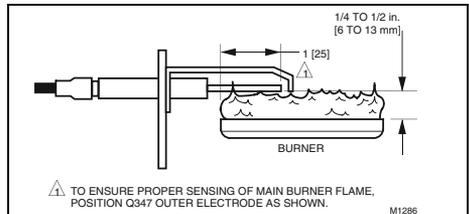

Fig. 2—Mount Q347 with respect to main burner flame.
6. Ensure that main burner flame is not blocked by the outer electrode. Mount Q347 as shown in Fig. 2.
7. Mount Q347B,C so the ignition flame remains properly positioned with respect to the main burner flame. Refer to Fig. 2.